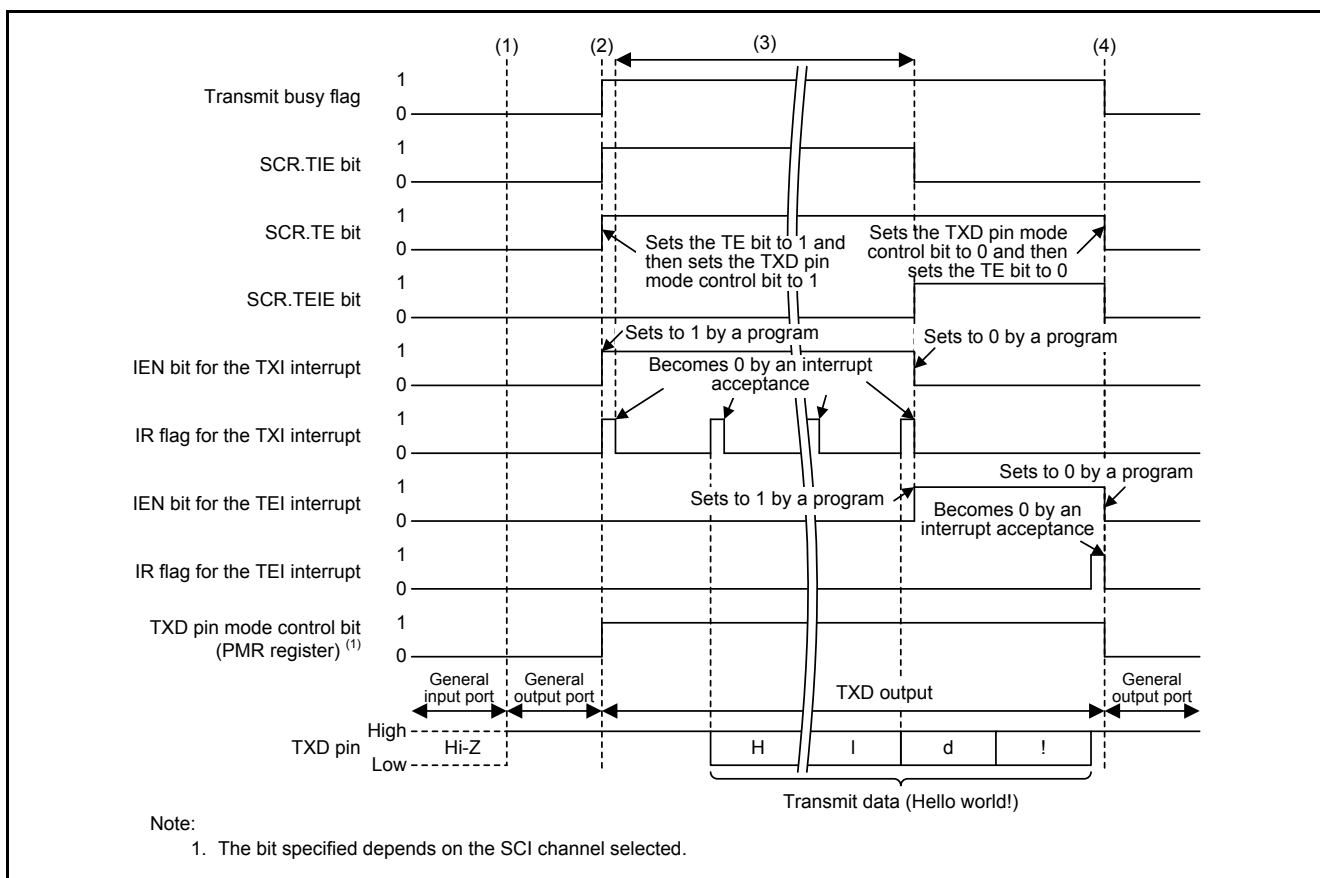

Figure 5.2 Timing of Serial Transmission
Figure 5.2 shows the Timing of Serial Transmission and (1) to (4) in the figure correspond to numbers in the operation descriptions below.
- (1) Initialization